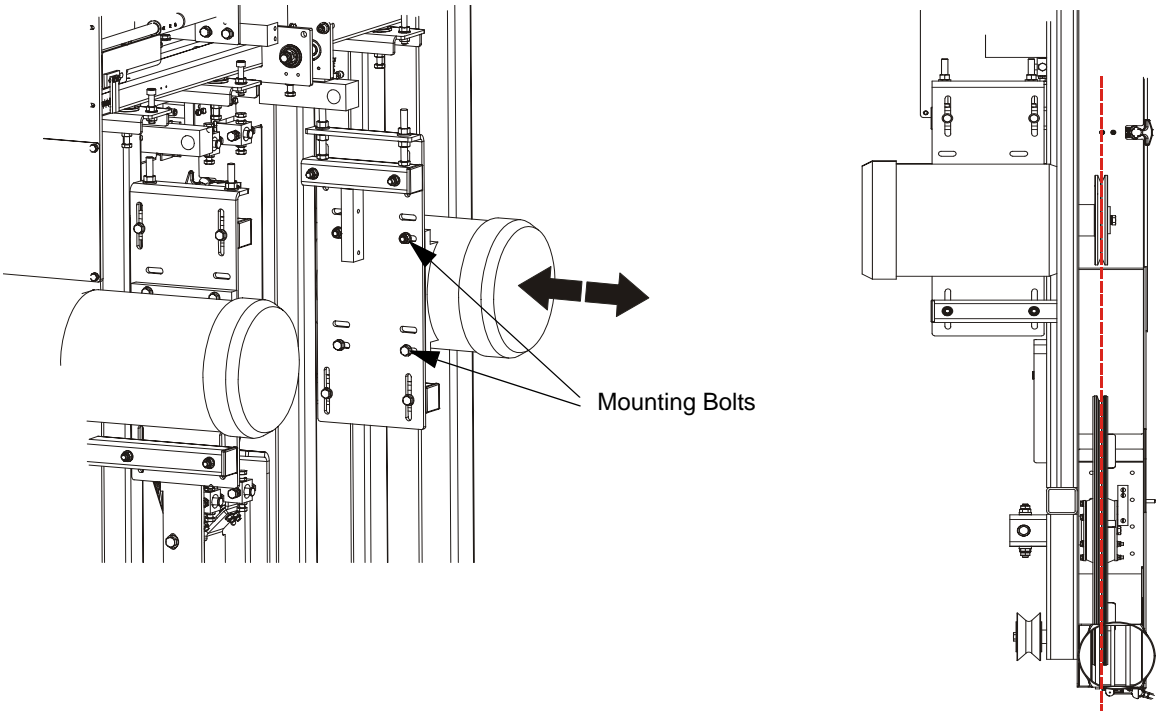

FIG. 4-4
**See Figure 4-4.** Keep the motor and drive pulleys aligned to prevent premature belt wear. To align the motor pulley to the drive pulley, loosen the mounting bolts on the motor plate and slide the motor plate in or out until it is in line with the drive pulley. After performing the alignment, make sure the drive belt tension has not been changed.